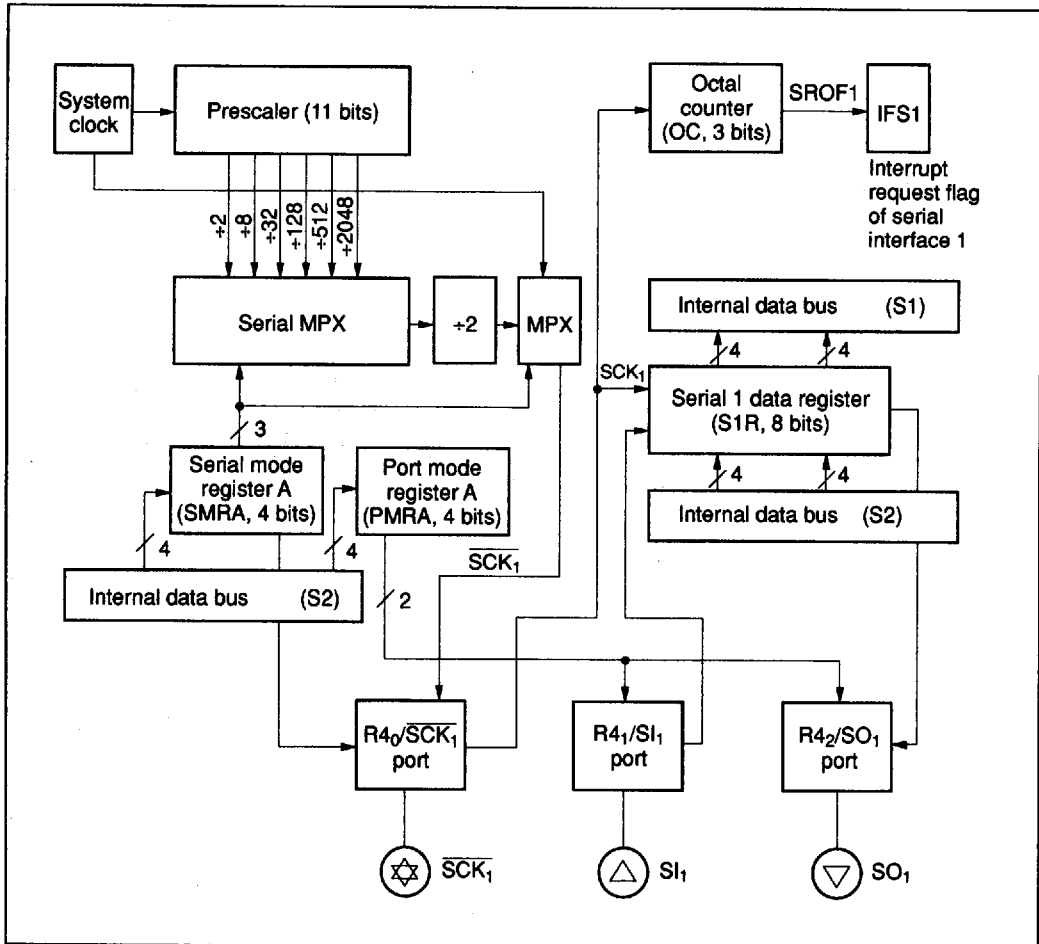

Figure 32 Serial Interface 1 Block Diagram
**Serial Interface 1:** Used to serially transmit and receive 8-bit data. It consists of serial 1 data register (S1R), serial mode register A (SMRA), port mode register A (PMRA), an octal counter, and a multiplexer as shown in figure 32. The R40/SCK1 pin and the transmit clock are controlled by writing data to SMRA. The transmit clock shifts the contents of S1R, which can be read and written to by